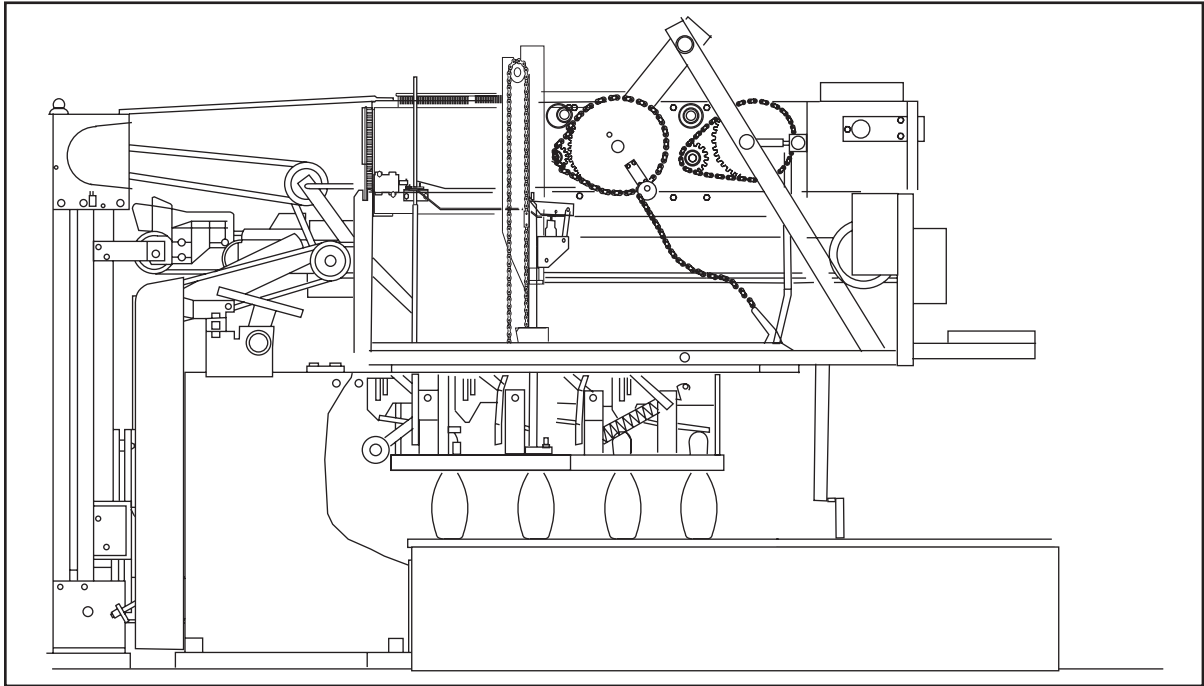

Figure 1-12. Detecting Pins
- A. Detect standing pins after a ball has been rolled. *Figure 1-12.*